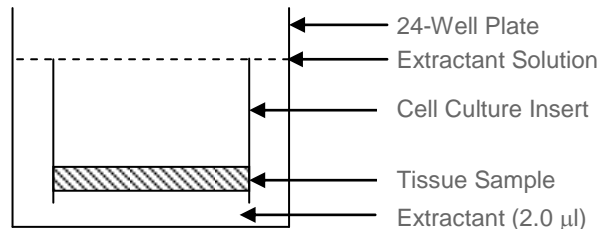

Figure 3: Extraction Configuration (room temperature in dark)
b) **Add extractant:** Immerse the cell culture inserts with 2.0 ml of the extractant solution per well to completely cover the cell culture insert. **See Figure 3.** Cover the extraction plate to reduce evaporation of extractant. Note: If the test article is colored and does not completely rinse off, pipet 1.0 ml of extractant into each well so that the MTT is extracted through the bottom of the tissue culture insert. After extraction is complete, remove the insert and add an additional 1.0 ml of extractant to bring the total volume to 2.0 ml.